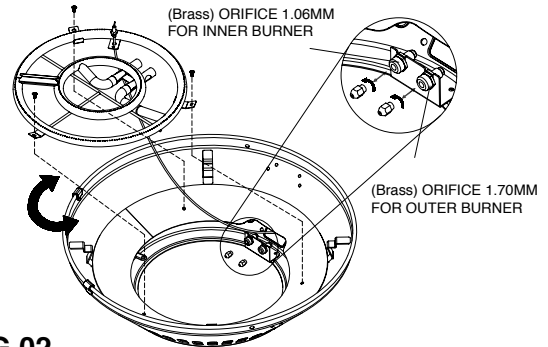

FIG 02.
- B. Assemble as shown above (FIG. 02) Use screwdriver to remove screws holding burner to grill body by unscrewing counter-clockwise to remove the burner kit.